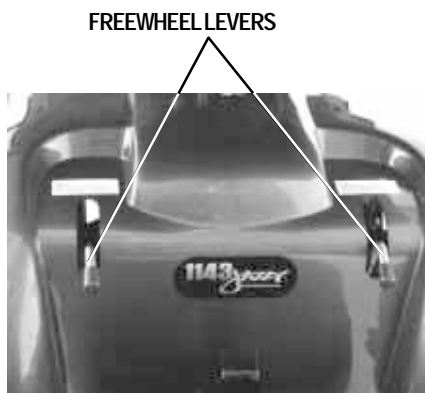

Figure 4. Freewheel Levers (Engaged)
1. Locate the two (2) metal freewheel levers protruding from the body shroud.
2. Turn them inward to engage the drive motors. See figure 4.